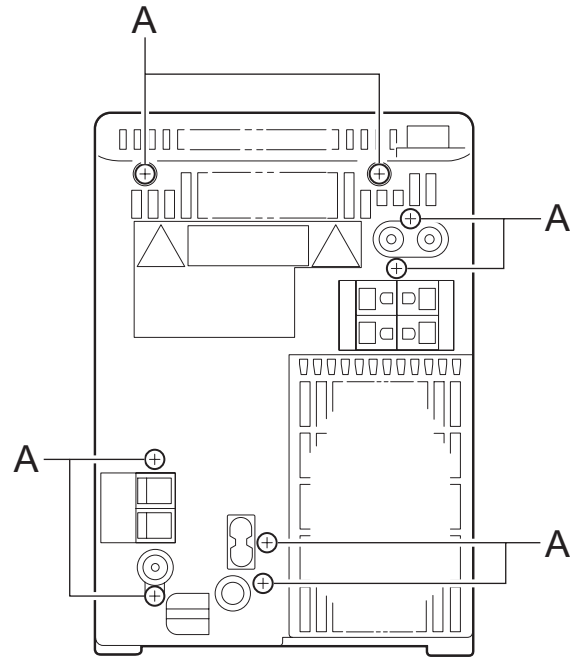

Fig.1
3.1.1 Removing the rear panel (See Fig.1,2)